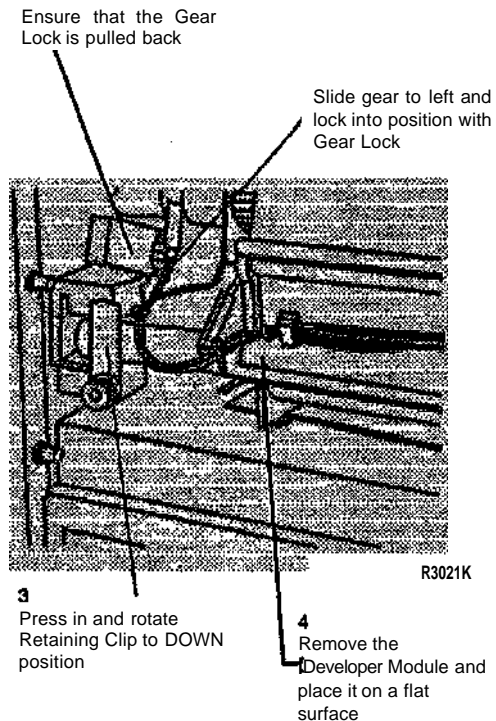

Figure 8. Removing the Developer Module
14. (Figure 8): Remove the Developer Module.